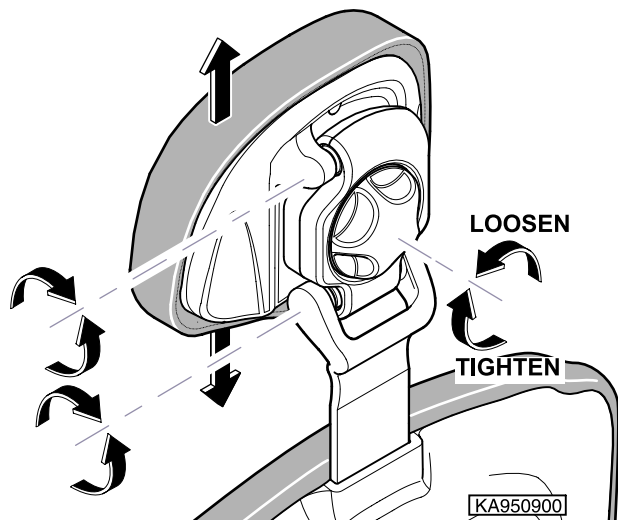

Figure 2-2. Headrest
- (7) Remove weights from chair.
- (8) Run Back Up function all the way up and Base Down function all the way down.
- (9) Slide headrest in and out stopping at different positions. Push gently against headrest at each position (Refer to Figure 2-2).
Table 2-1 is a Troubleshooting Guide which is used to determine causes of malfunctions. Figure 2-2, is a pictorial diagrams that will assist in the troubleshooting procedures. Also refer to diagrams in Section V.